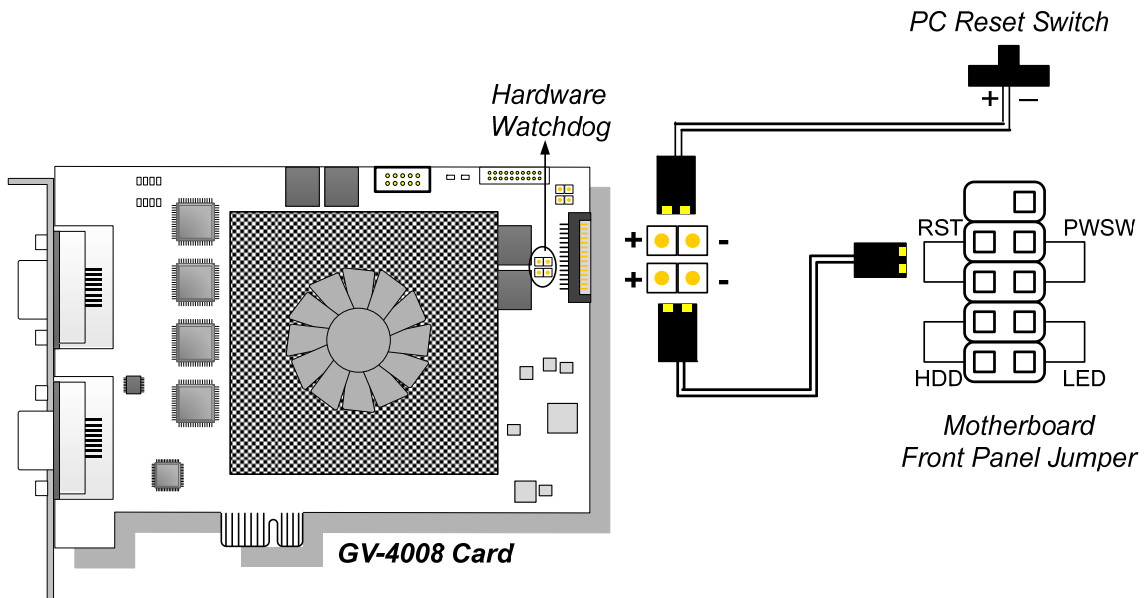

Figure 1-3
- **Hardware Watchdog Connection:** Connect the supplied Hardware Watchdog Jump Wire to the Master Card only (Figure 1-3).